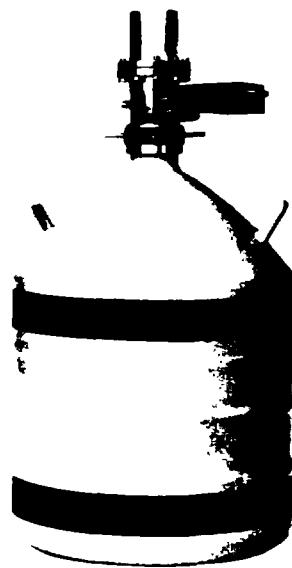

Fig. 12.8: Preamplifier outside
- (ii) A widely accepted configuration is shown in Fig. 12.8. Here, the preamplifier is located in a separate box that is attached to the dipstick. Such a preamplifier can contain the input stage, with the FET at room temperature: this solution is sometimes applied to the gamma-ray detectors. In most cases, the protruding box does not contain the input stage; this is somewhere inside the detector cap, with the FET at low temperature.